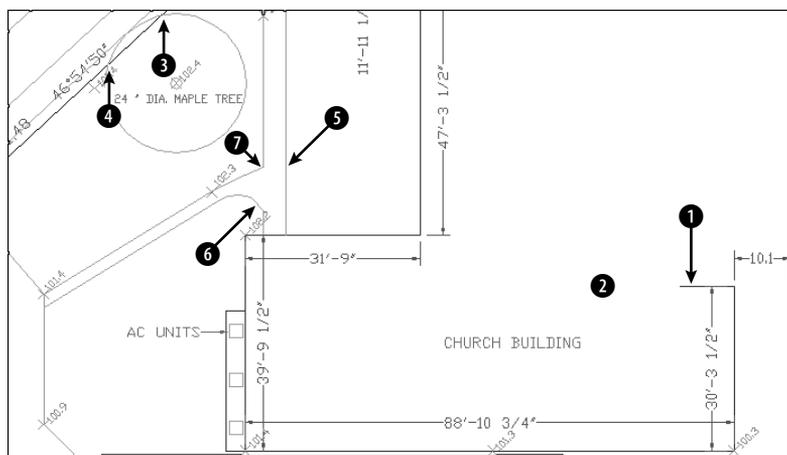

Figure 10-27: A site plan.
2. Save the file as ab10-09.dwg in your AutoCAD Bible folder. This is a site plan, as shown in Figure 10-27. Turn on OSNAP and set running object snaps for endpoint and intersection.